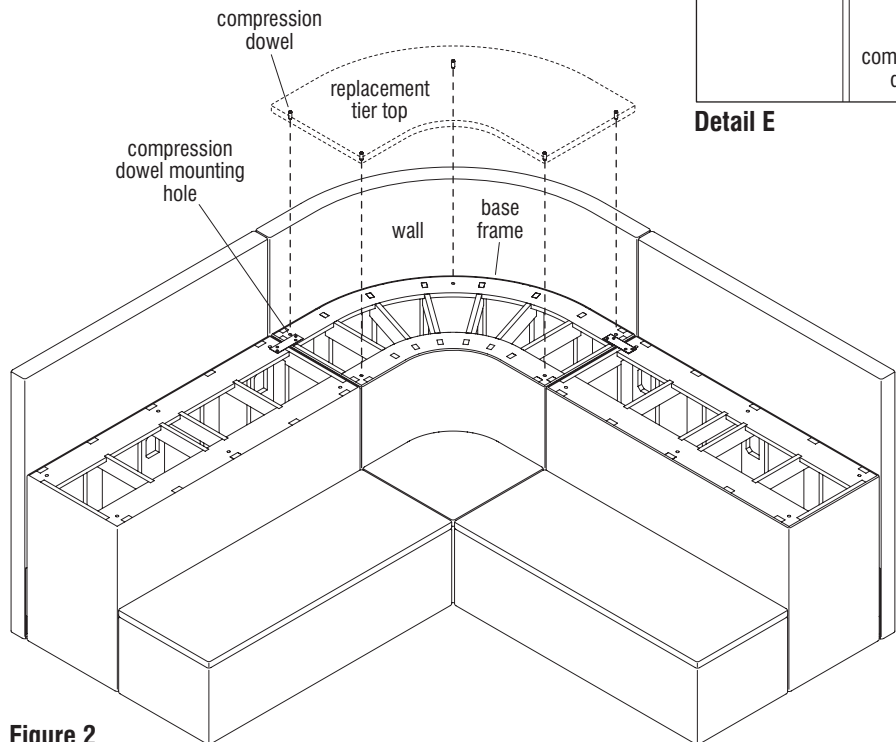

Figure 2
1. Align the dowels on the underside of the replacement tier top with the mounting holes on top of the base frame. If a wall is present, have a second person positioned at the rear of the wall to hold the unit in place while the first person presses the top against the wall to help align the dowels with the mounting holes in the base frame. Once compression dowels align, start pounding down on the tier top using a clenched fist at the back of the unit and working your way to the front to have the dowels engage the mounting holes. If one or more of the dowels become slightly misaligned with the holes before inserting in, use a pry bar to press on the dowel in the direction needed to help it into the mounting hole. Then continue to tap the tier top down into place (Figure 2 & Details C, D, & E).